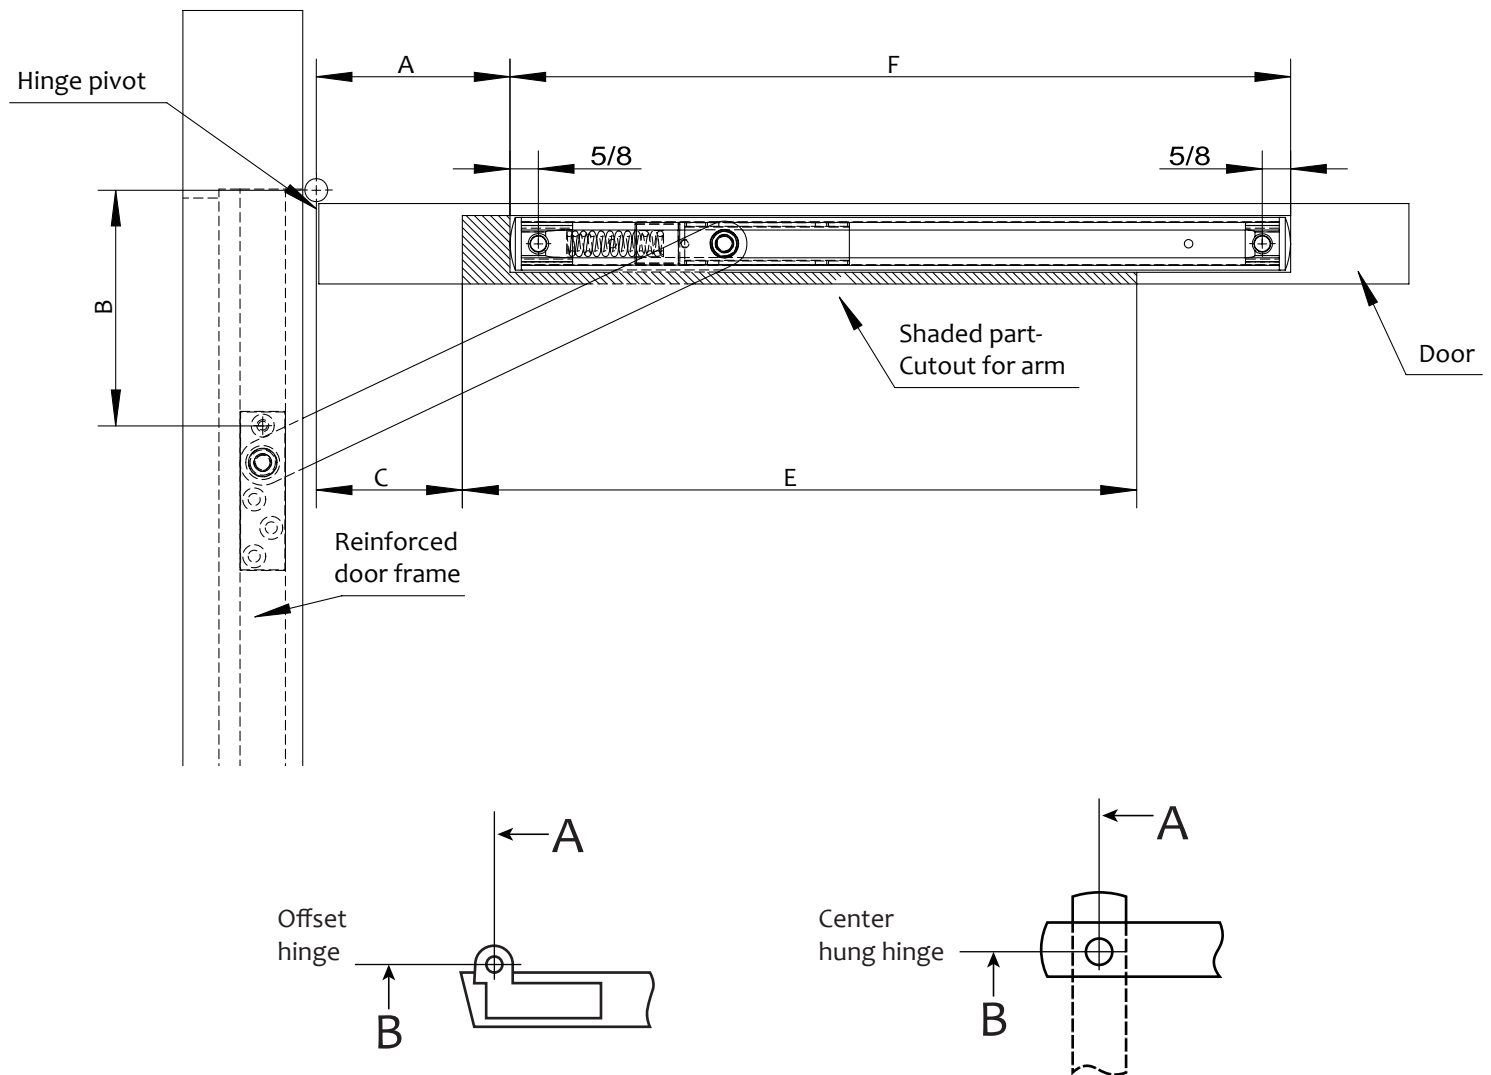

Figure 1 Installation diagram
- Select the correct dimensions from Figure 5 for Figure 1, according to the door opening and opening angle.
- Select and mark dimension B on the door frame for jamb bracket. (Figure 1)
- Chisel a 1-5/8" deep x 1-1/4" wide mortise for the channel according to dimension F. (Figure 1, 3)
- Make cutout 3/8" deep for arm, according to dimension E. (Figure 1, 3)